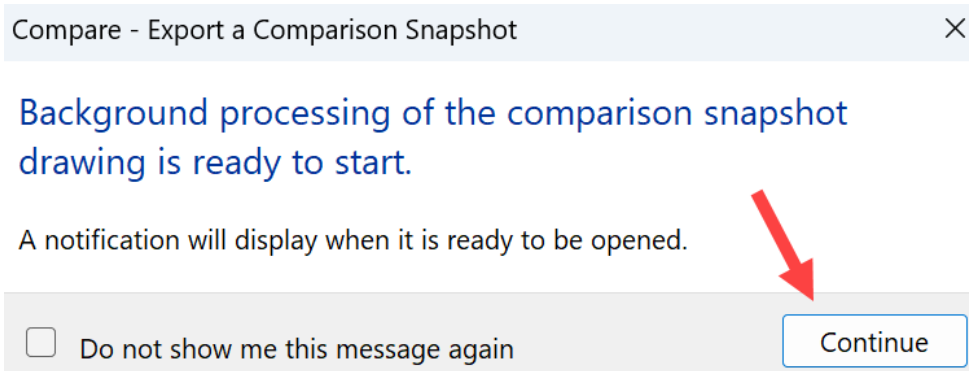

Figure 14.14: The prompt for background processing
8. You will see a prompt that lets you know that the comparison drawing is being processed in the background, as shown in *Figure 14.14*. Click on **Continue** to process the comparison snapshot drawing. Note that you can tick the box not to show this prompt again.